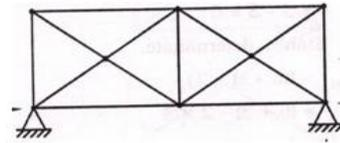

Figure-2
- Q.2** (a) Find static indeterminacy for the structure shown in figure-2. **03**